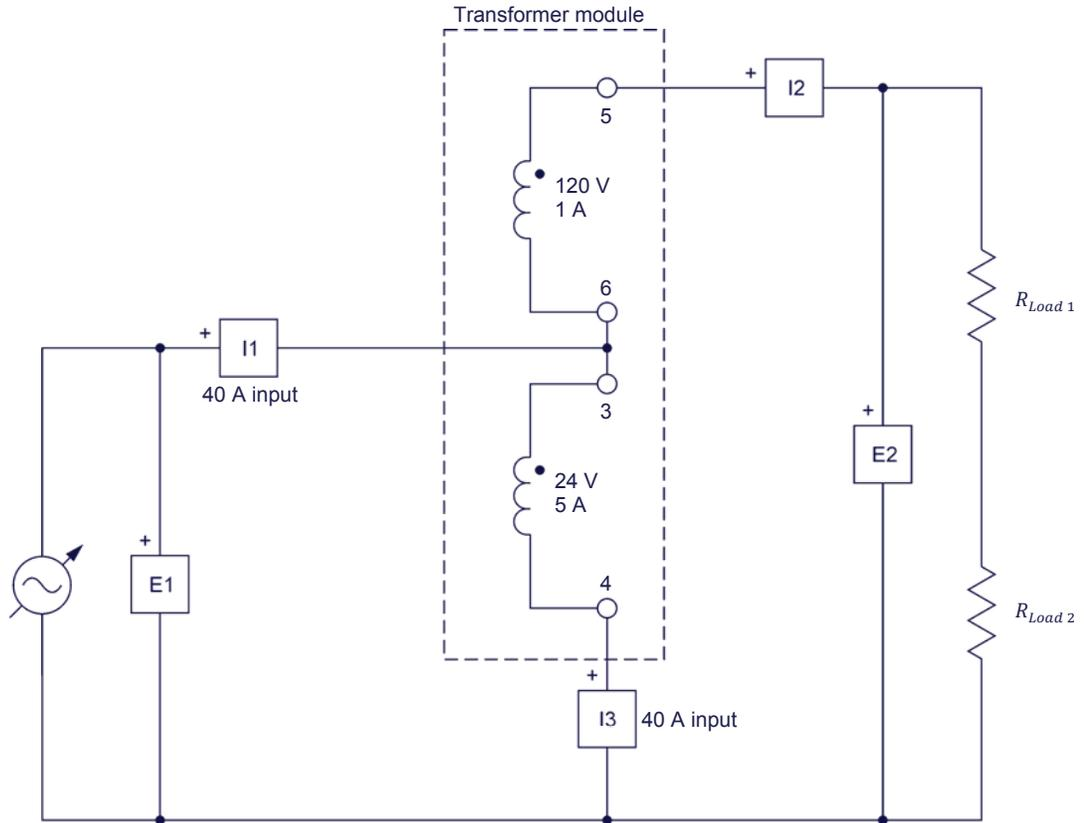

Figure 43. Step-up autotransformer connected to two resistive loads.
28. Connect the equipment as shown in Figure 43. Notice that the resistive load consists of two resistors ($R_{Load\ 1}$ and $R_{Load\ 2}$) connected in series. Connect two resistor banks of the Resistive Load in parallel to implement resistor $R_{Load\ 2}$.
37. Determine what would be the power rating of a conventional 24 V:120 V or 120 V:24 V power transformer implemented with the same two windings as those used to implement the step-up autotransformer in Figure 43.